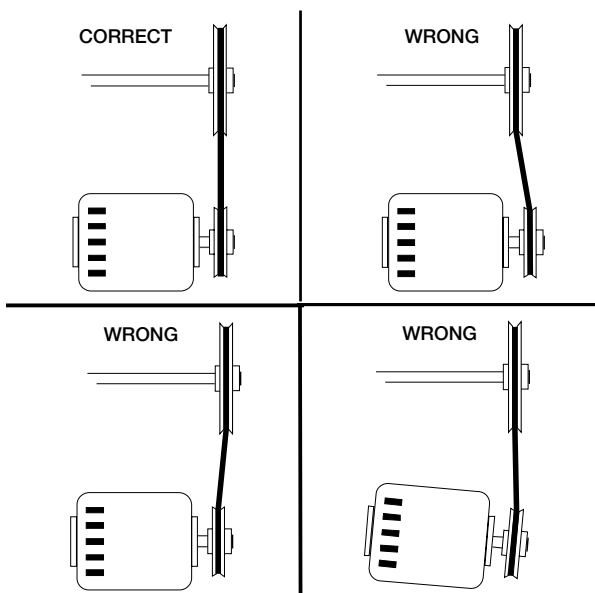

Figure 5
5. If adjustments are made, it is very important to check the pulleys for proper alignment. Misaligned pulleys lead to excessive belt wear, vibration, noise and power loss. (See figure 5)